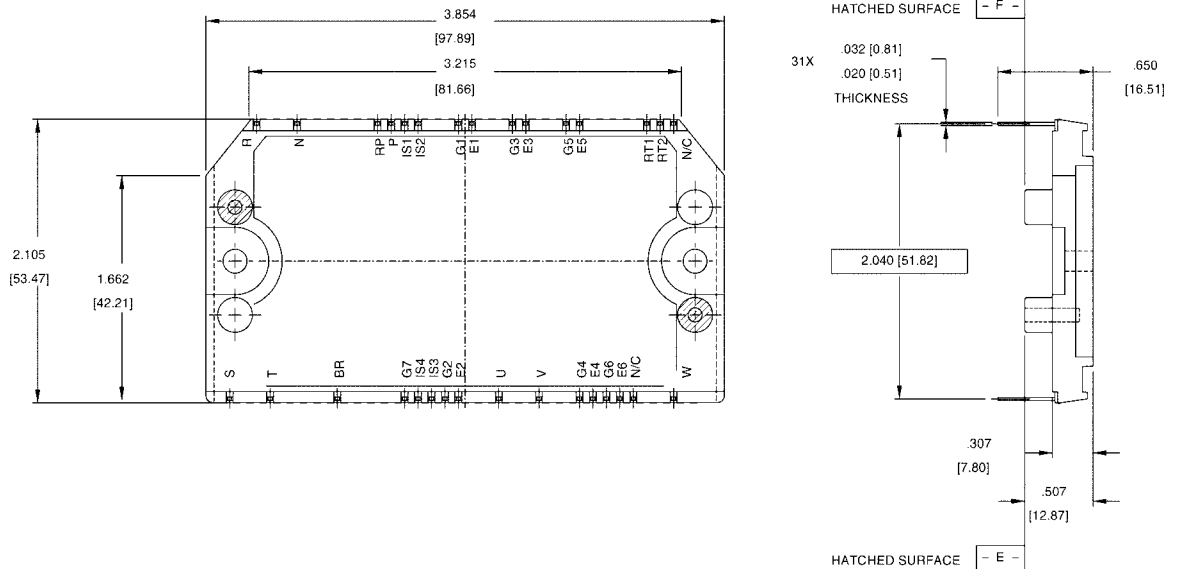

**Figure 6.** Power Module Mounting Screw Sequence
5. Insert the two M4 mounting screws through the PCB, power substrate and into the heat sink and tighten the screws to 1 Nm torque, according to the sequence shown in Figure 6.